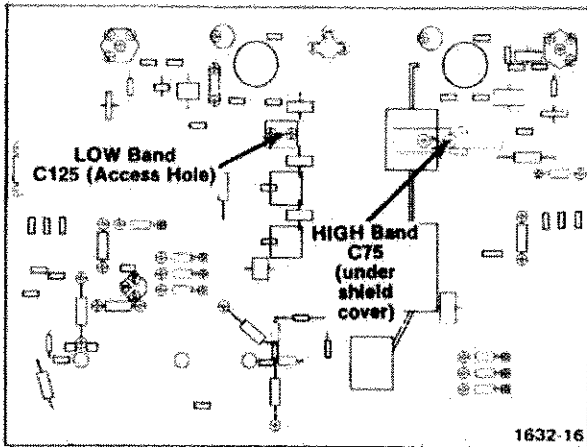

Fig. 3-6. Location of low band and high band adjustments on RF circuit board.
- k. Adjust—Low Band, C125, for a minimum voltage reading on the digital voltmeter. (The minimum voltage point—greater than 14 volts, but less than recorded value in Step 3 part f—is very sensitive to the adjustment of C125.) See Fig. 3-6 for adjustment location.
j. Remove the shield cover from the rf board. High Band adjustment C75 is located near Q70 and is a slug-tuned capacitor. See Fig. 3-6 for reference.